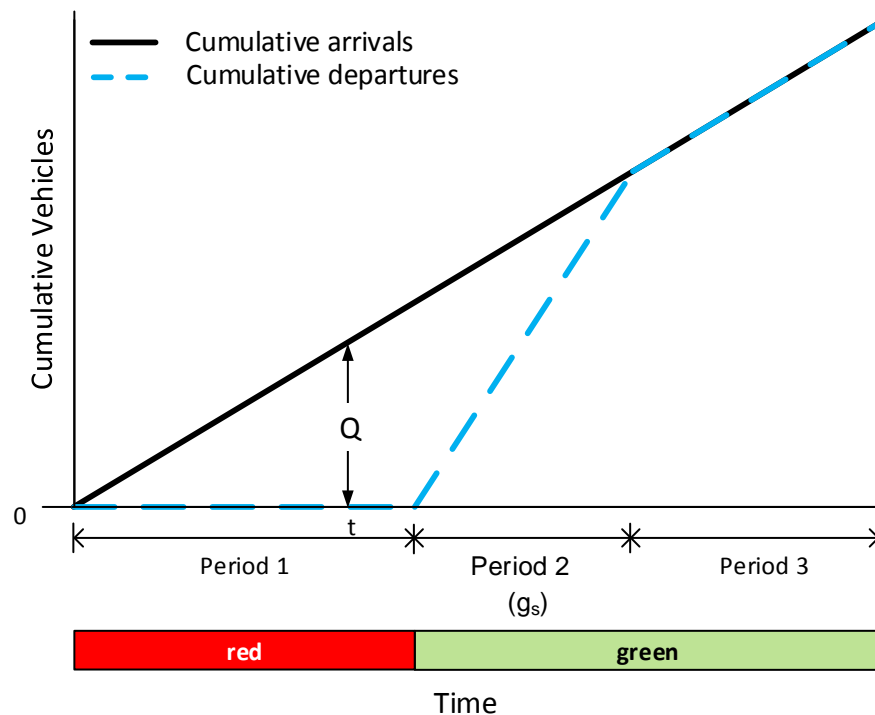

Figure 7. Cumulative vehicle diagram showing queue length at time  $t$
The *cumulative vehicle diagram* (Figure 7) is a running total of the number of vehicles that have arrived at and departed from the intersection over time. The cumulative vehicle diagram shows two lines, one representing the cumulative number of arrivals over time and the other the cumulative number of departures.
- The first measure is the length of the queue at any point in time. The *length of the queue* is the difference between the number of vehicles that have arrived at and departed from the intersection at any point in time. Graphically, the queue length (or number of vehicles currently in the system,  $Q$ ) is the vertical distance between the arrival line and the departure line, as illustrated in Figure 7.